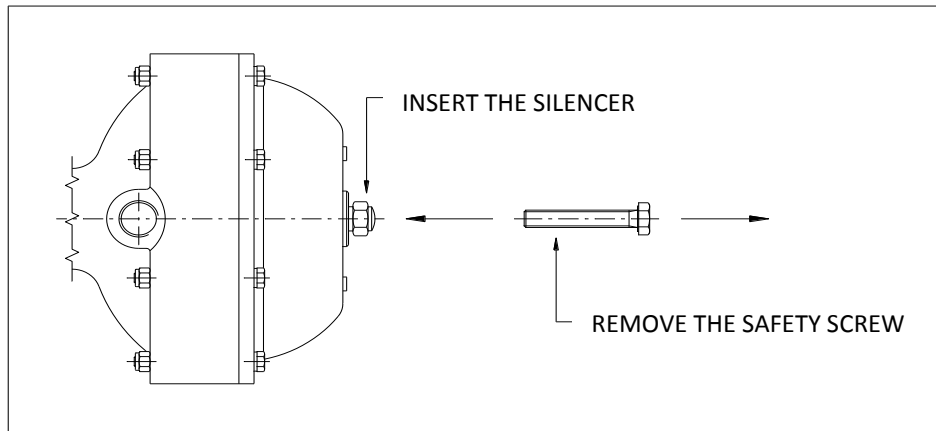

Figure 3
- Power up the thruster and substitute the safety screw TE with the silencer C61126 (Figure 3).